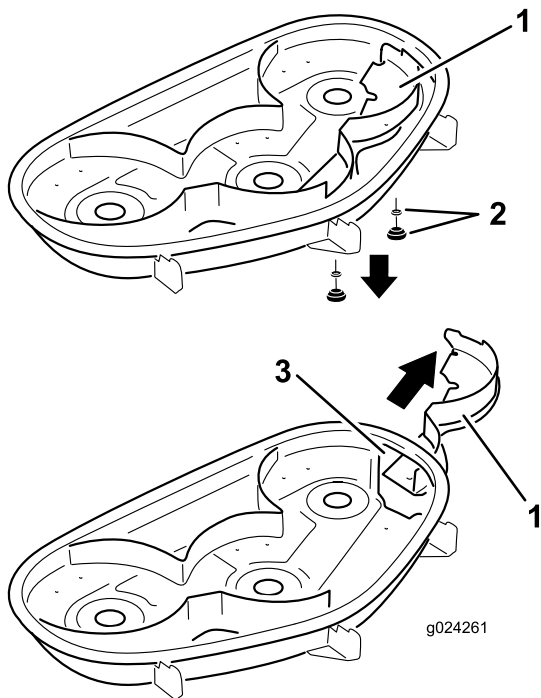

**Figure 27**
4. Remove the 2 knobs and curved washers that secure the right baffle to the mower (Figure 27).
5. Remove the right baffle and lower the grass deflector over the discharge opening as shown in Figure 27 and Figure 28.
5. Slide the right baffle under the mower deck, and secure it using 2 knobs and the curved washers (cupped side facing the mower) as shown in Figure 27 and Figure 28.